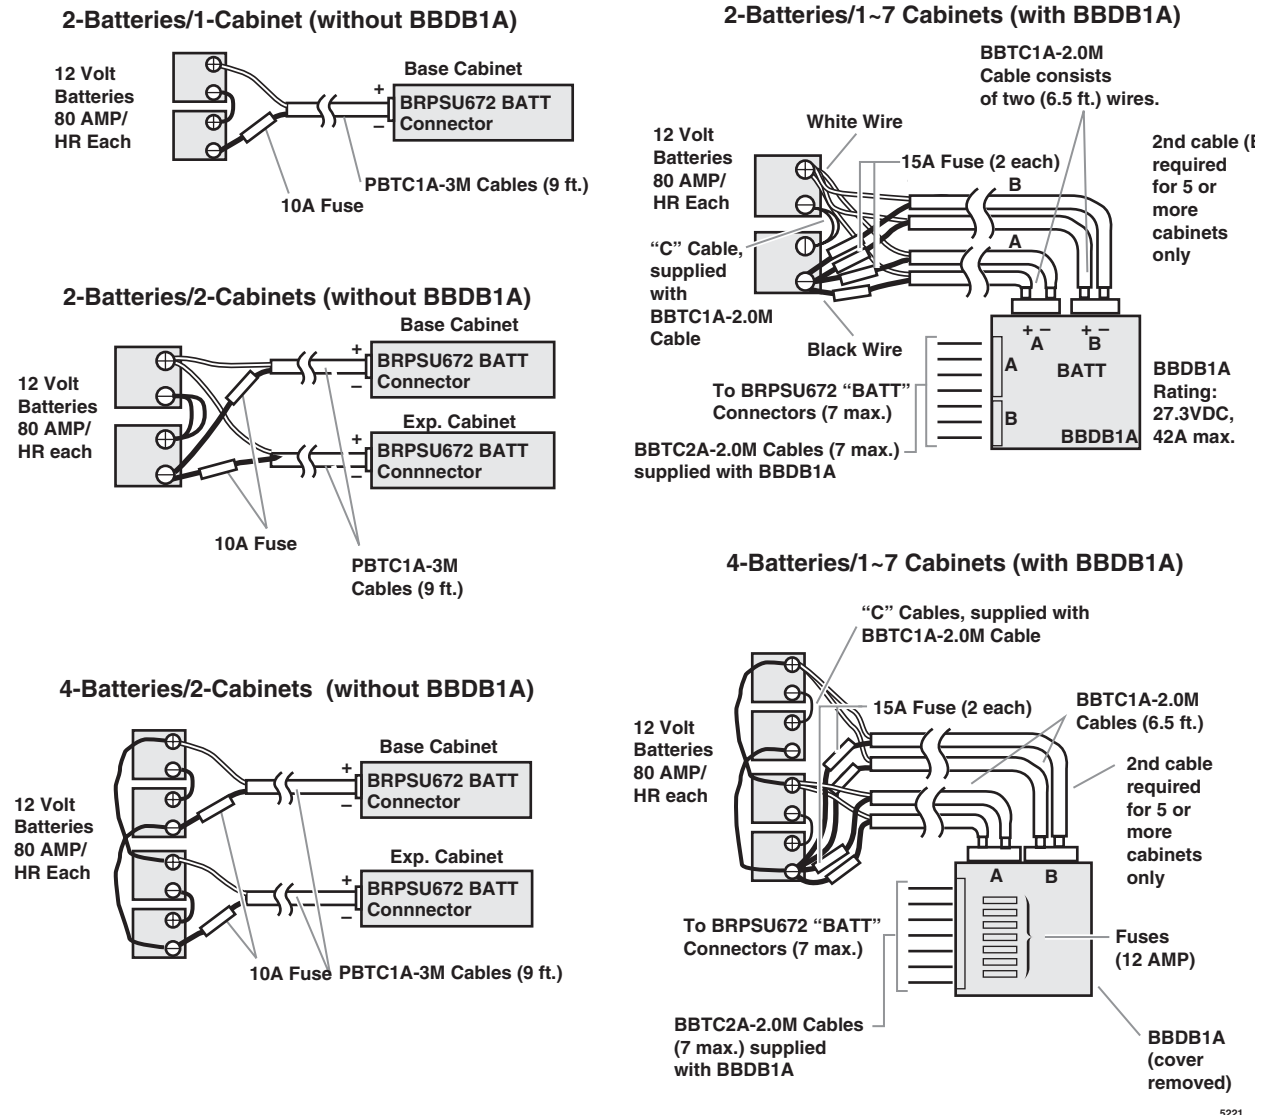

Figure 5-4 Battery Wiring Diagram (Two or Four Batteries)
- Two or four batteries connected per Figure 5-4.
**Important!** Reserve batteries can be installed in various configurations depending on backup time (Table 5-1) and the number of cabinets (Figure 5-4). Use the guide in Figure 5-4 for installing batteries, as required.
1. Connect the black jumper wire (supplied with the PBTC1A-3M cable) from the positive terminal of one 12VDC battery to the negative terminal of the second 12VDC battery (Figure 5-4).
**Note** If connecting four batteries, follow the wiring diagram in Figure 5-4.
1. Install the Battery Distribution Box (BBDB1A). See “Install Reserve Power Battery Distribution Box (if required)” on page 5-17 and Figure 5-4. The BCCB is not required.
2. Connect two Cable “C” jumper wires from the positive terminal of one 12VDC battery to the negative terminal of the second 12VDC battery, per Figure 5-4 (Cable “C” is supplied with the BBTC1A-2.0M cable).
7. Connect the BBTC2A-2.0M cables from the Battery Distribution Box to the BATT +/- receptacle of individual power supplies per Figure 5-4 (BBTC2A-2.0M cables are supplied with a BBDB1A distribution box).
**Note** If connecting four batteries, follow the wiring diagrams in Figure 5-4.
If a BBDB1A is required (see Figure 5-4), follow this procedure: